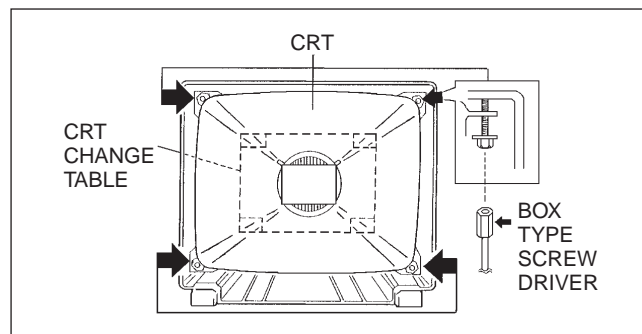

Fig.4
- (3) Remove 4 screws marked by arrows with a box type screw-driver as shown in Fig. 4.